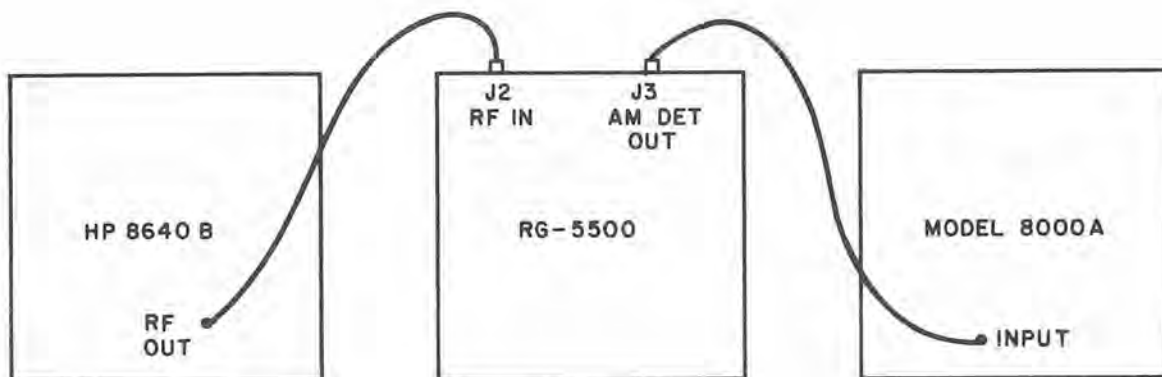

Figure 5-6. A23A1-A4 21.4 MHz Bandpass Amplifier Gain Adjust Test Setup
- (1) Apply ac power to receiver.
- (2) Connect test equipment as shown on figure 5-6.
- (3) Push CW MAN mode selector and BANDWIDTH option "A" on front panel.
- (4) Tune receiver to any frequency from 20 to 510 MHz.
- (5) Set signal generator frequency to same frequency chosen in (4), above.
- (6) Set signal generator output level to rated sensitivity for bandwidth under test (table 5-1).
- (7) Adjust GAIN SET R23 or R24 as applicable for maximum as measured with digital voltmeter.
- (8) Repeat steps (4) through (7) for options "B", "C", and "D".
- (9) Disconnect all test equipment.